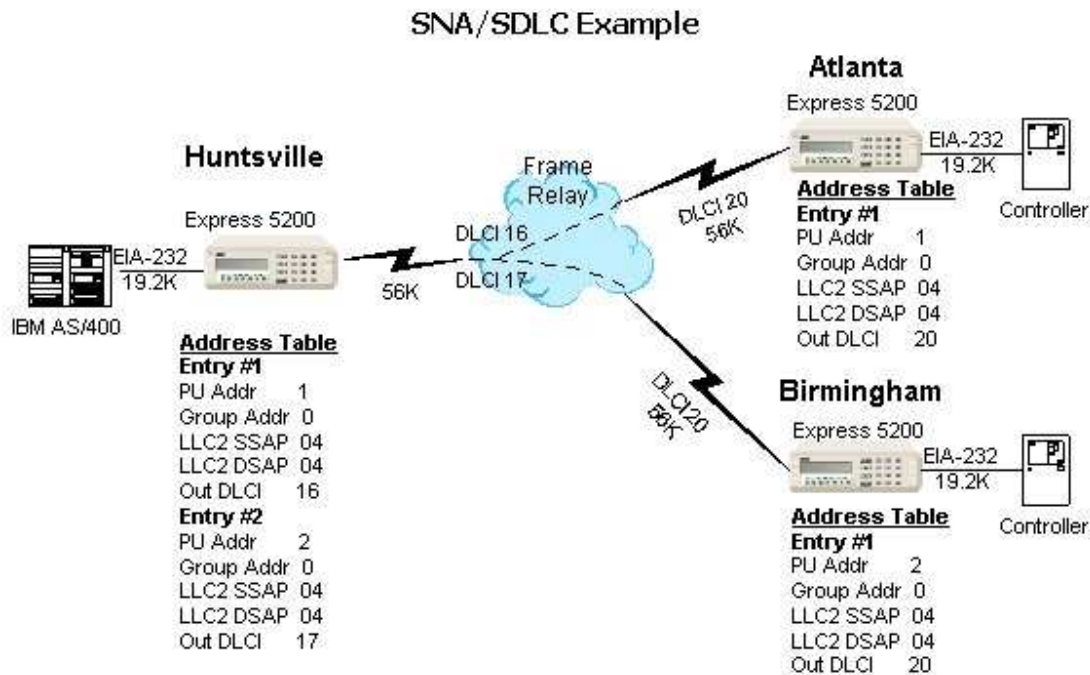
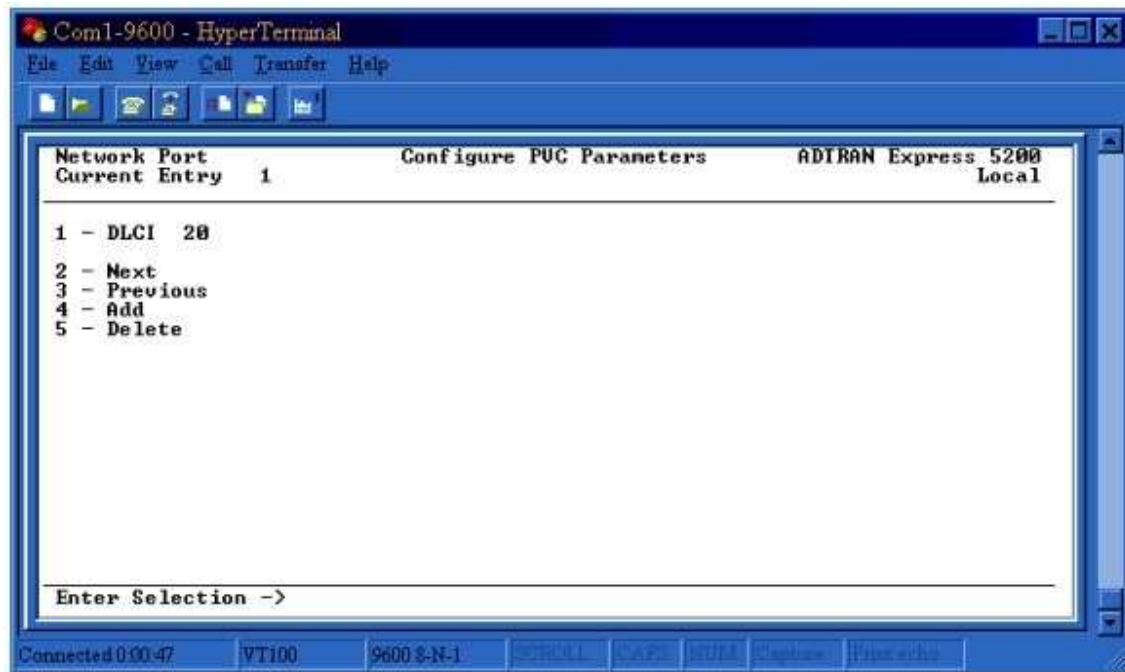
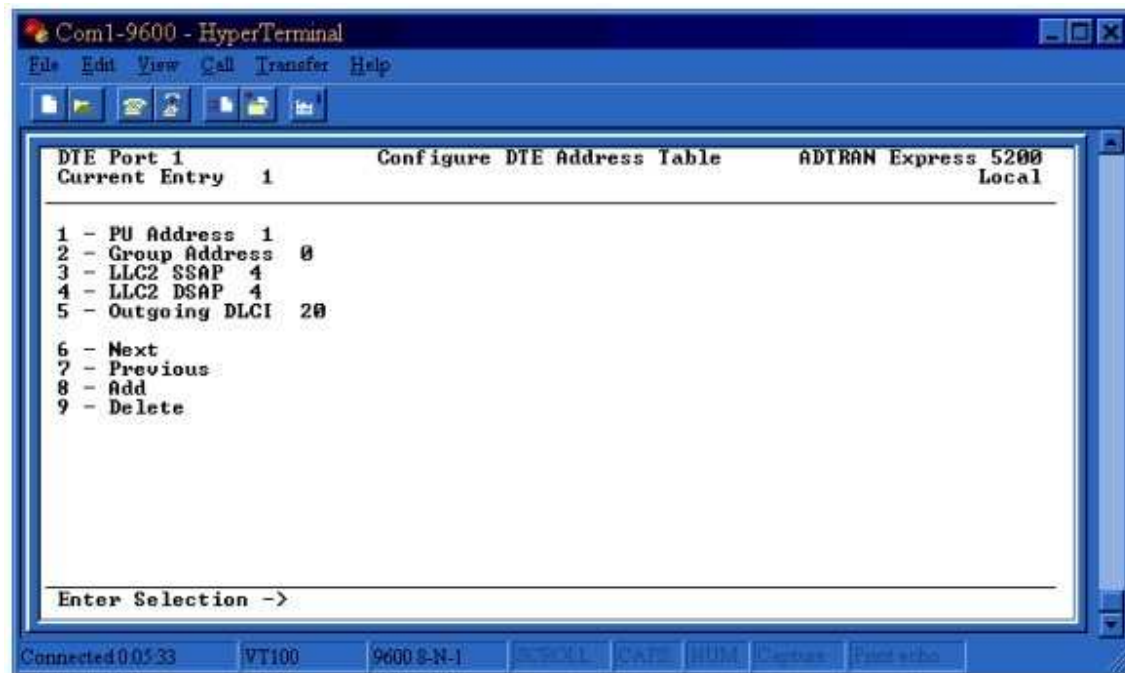

Figure 1
Figure 15
Figure 16
The following ADTRAN products are capable of performing this SDLC application: FSU, FSU 5622, Express 5110, Express 5200, Express 5210. For the purposes of this technical note, we will be using the Express 5200 in our example network shown in Figure 1. The example network consists of a host AS/400 and two remote controllers, using an Express 5200 at each location for connectivity to the 56K frame relay lines.
3. Enter 1 and press <enter> to select **Physical Layer Options**. Select the appropriate rate for the frame relay line, either 56K or 64K. For the example network in Figure 1, we will be using 56K. The **Clock Source** option should remain as *From Network* to take timing from the frame relay line. See Figure 5.
8. Enter 2 and press <enter> to select **Physical Layer Options**. Select the appropriate **Interface Type** and **Bit Rate**. For the example network in Figure 1, we will be using EIA-232 and 19.2K. **TD Clock Source** should remain as *Internal* unless the AS/400 is configured to provide timing. **Transmit Idle Code** should remain as *Flags* unless the AS/400 is configured to expect ones for its idle code. **Hardware Flow Control** should always be *On* since the AS/400 relies on the RTS and CTS leads for flow control.
According to the network diagram in Figure 1, both remotes are using DLCI 20 to communicate with the host. Therefore, the **DLCI** field under **PVC Options** should be 20 for both the Atlanta and Birmingham units. See Figure 15.
The host unit had two entries in the **Address Table** because there were two PVCs. However, each remote unit will only have one entry in the **Address Table** because each remote site has only one PVC. According to the network diagram in Figure 1, the following values should be used in the **Address Table** for the Atlanta remote. See Figure 16.